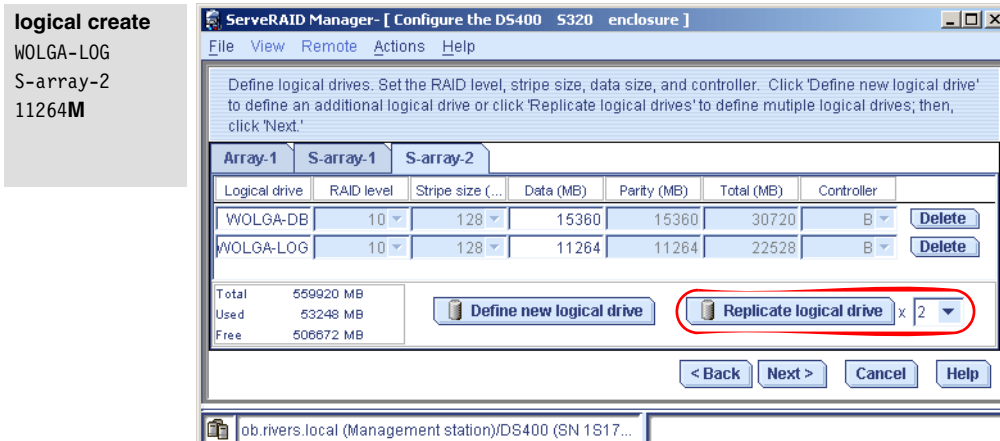

Figure 4-103 Replicate a logical drive
19. When several logical drives are required, and the array has enough free space, up to 63 additional logical drives can be created. To replicate a logical drive, place the cursor on the line of the logical drive that is to be replicated. Select the number of replicas, and click the button **Replicate logical drive**. See Figure 4-103.